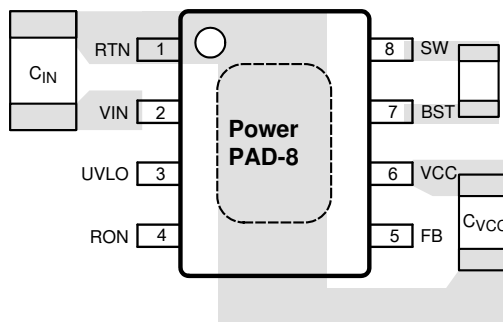

Figure 10-1. Placement of Bypass Capacitors
1.  $C_{IN}$ : The loop consisting of input capacitor ( $C_{IN}$ ),  $V_{IN}$  pin, and RTN pin carries switching currents. Therefore, the input capacitor should be placed close to the IC, directly across  $V_{IN}$  and RTN pins and the connections to these two pins must be direct to minimize the loop area. In general it is not possible to accommodate all of input capacitance near the IC. A good practice is to use a 0.1- $\mu$ F or 0.47- $\mu$ F capacitor directly across the  $V_{IN}$  and RTN pins close to the IC, and the remaining bulk capacitor as close as possible (see Figure 10-1).
2.  $C_{VCC}$  and  $C_{BST}$ : The  $V_{CC}$  and bootstrap (BST) bypass capacitors supply switching currents to the high and low side gate drivers. These two capacitors should also be placed as close to the IC as possible, and the connecting trace length and loop area must be minimized (see Figure 10-1).